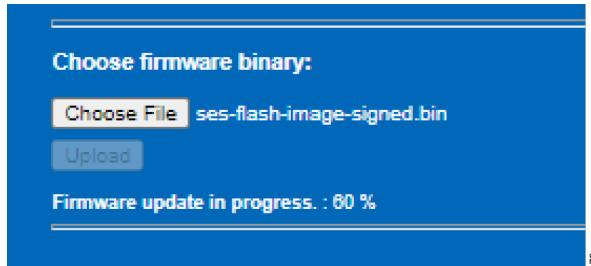

Figure 180. Firmware Update – Upload to Web Server
2. Figure 180 shows the progress of the file upload into the web server.